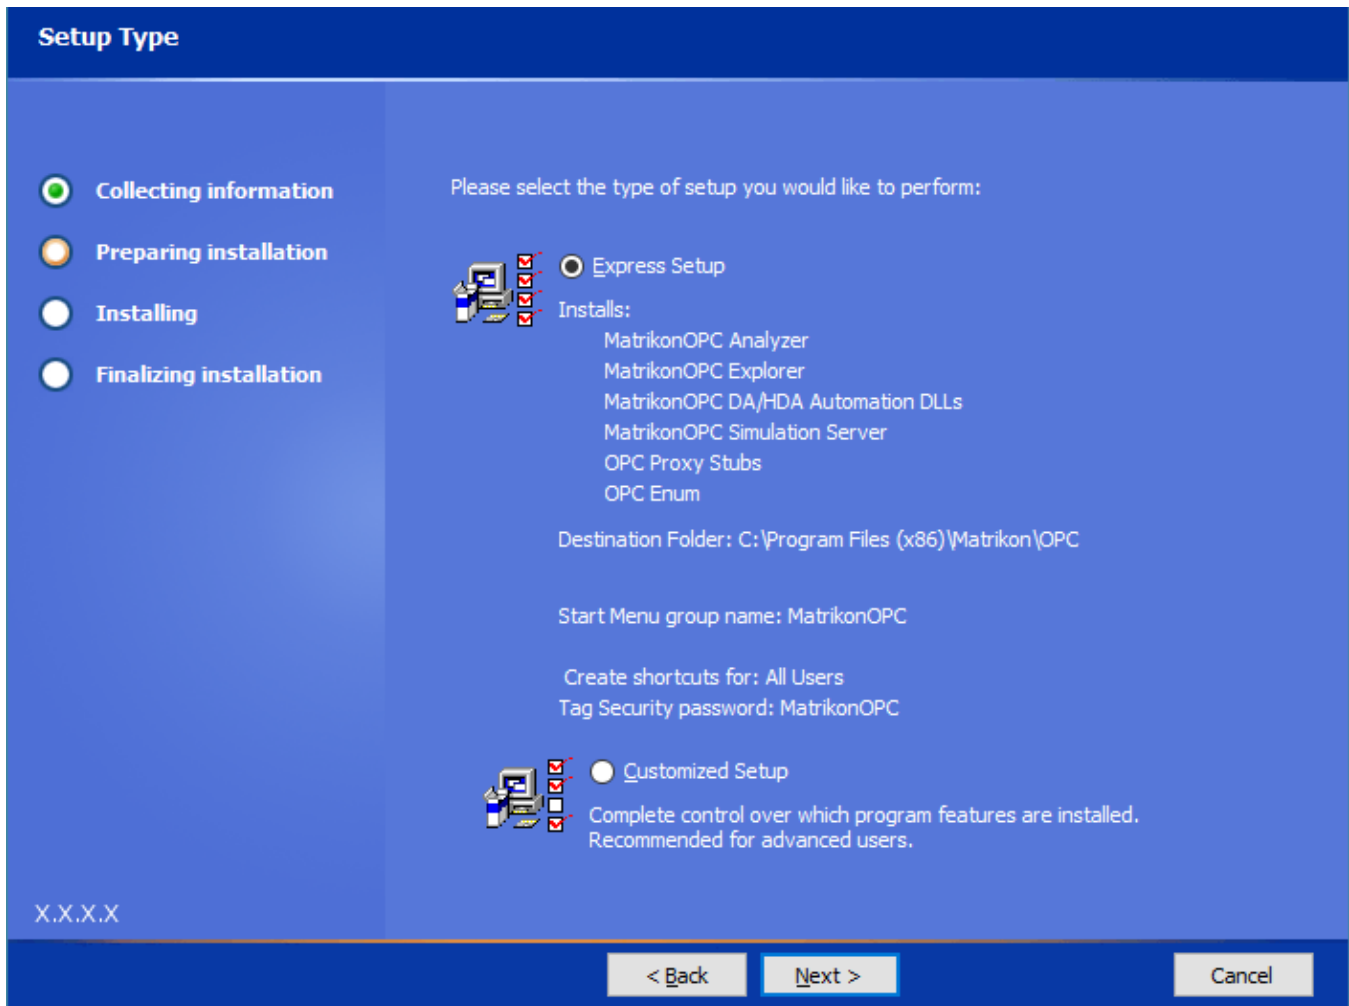

Figure 6 - Setup Type Screen
6. Click on the **Next** button. The **Setup Type** screen (Figure 6) appears.